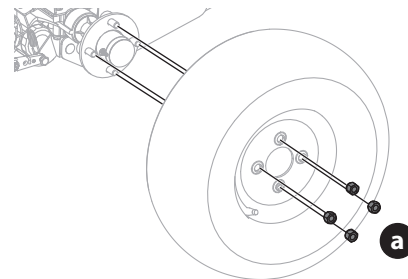

Fig. 35
1. With the tires on the ground, loosen, but do not remove the four lug nuts (a) (Fig. 35).
6. Torque the lug nuts (a) to 65-70 ft-lbs (88-95 Nm) in a crisscross pattern (Fig. 35).